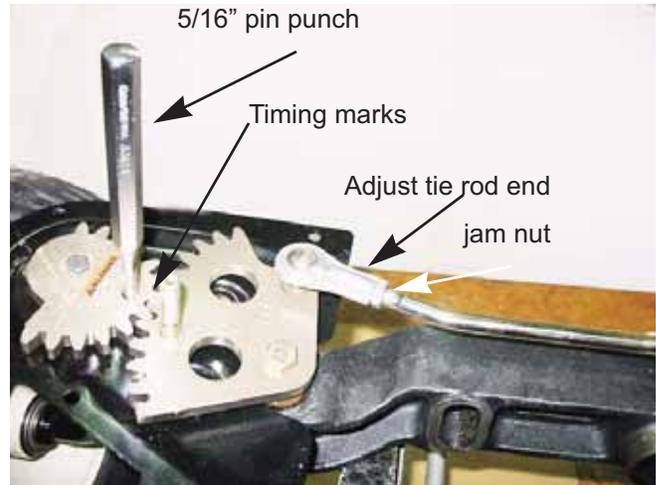

Figure 6A.98
**NOTE:** Make sure they go all the way through into the pivot bar to lock the gears in position. See Figure 6A.98.
19. Adjust the tie rod ends by loosening the jam nuts and rotating the tie rod ends until they slide on to the 1/4" bolts sticking up through the inboard steering gears. Tighten the jam nuts to lock the tie rod ends in place. See Figure 6A.98.